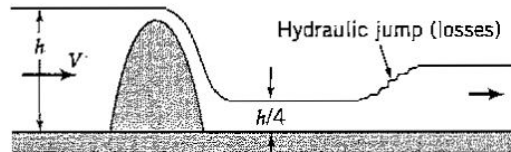

Figure P10.65
10.65 Water in an open-channel flow of constant width flows steadily over a dam as shown in Figure P10.65. The velocity of the water far upstream of the dam is V , the Froude number is F and the depth is h . Far downstream of the dam the depth is $h/4$.